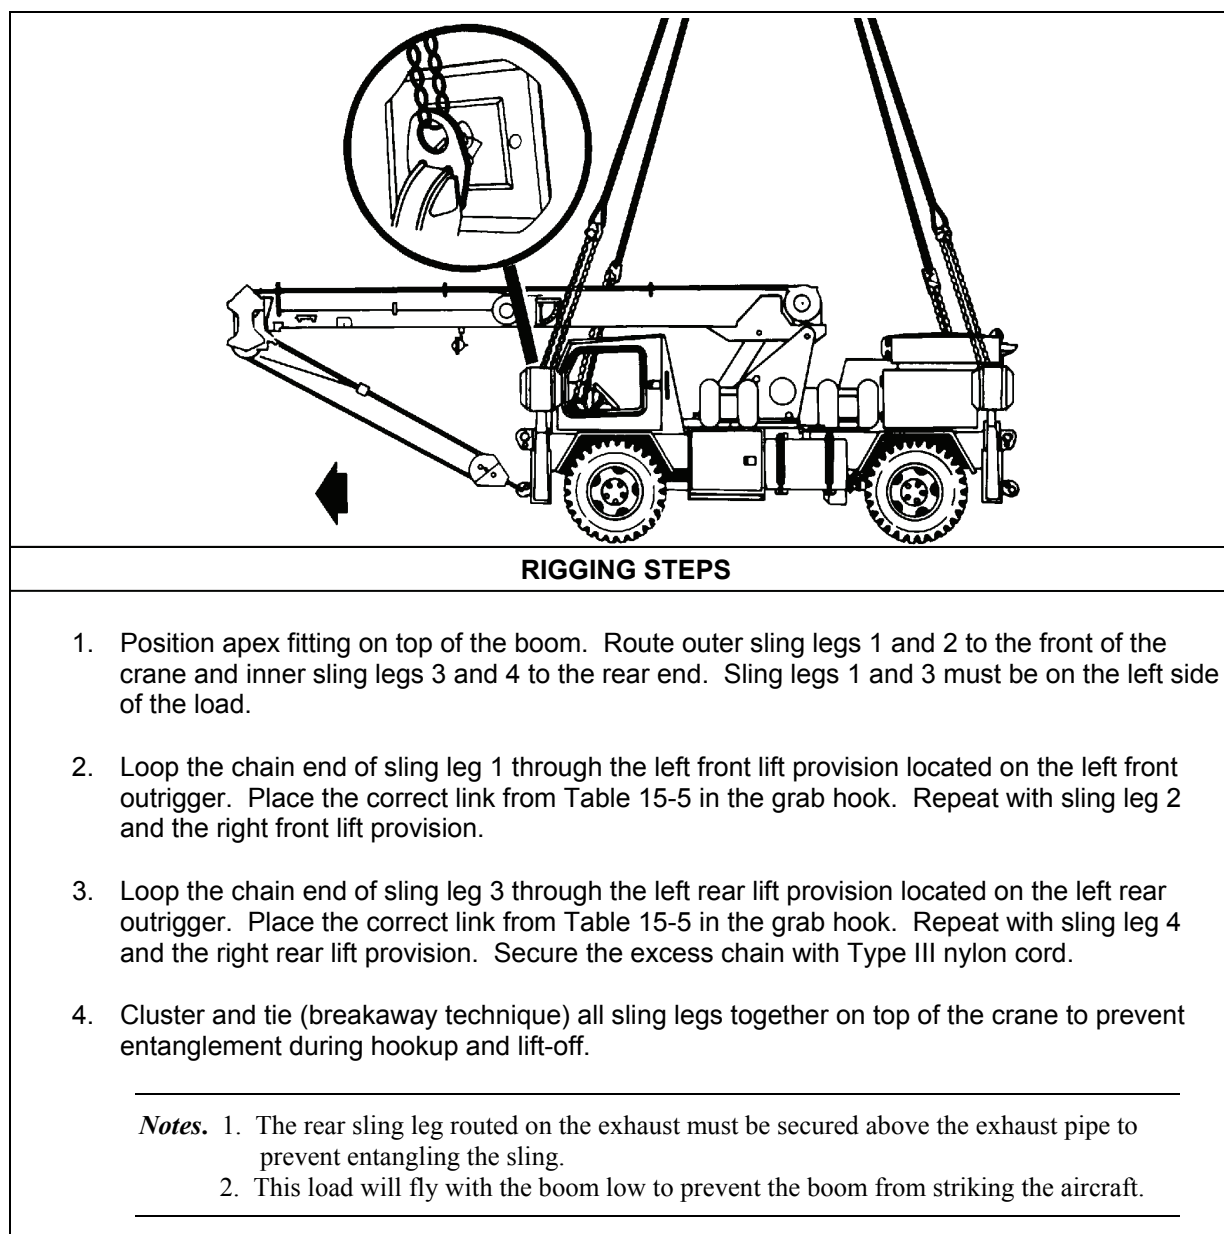

Figure 15-5. Crane, Self-Propelled, for Army Aircraft Maintenance and Positioning
- **Rigging.** Rig the load according to the steps in Figure 15-5.